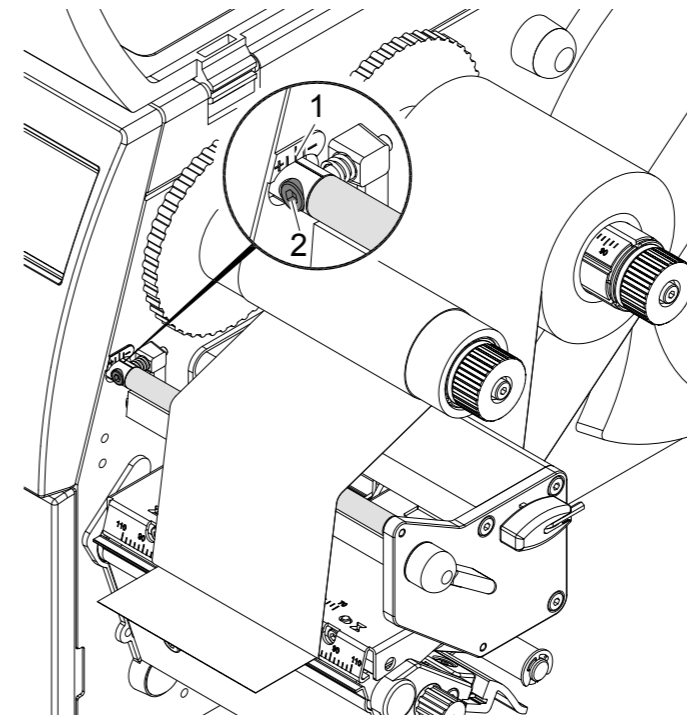

Fig. 18 Setting the feed path of the ribbon
1. Read current setting on the scale (1) and record if necessary (▷ Fig. 18).
2. Turn screw (2) with Allen key and observe the behaviour of the ribbon.